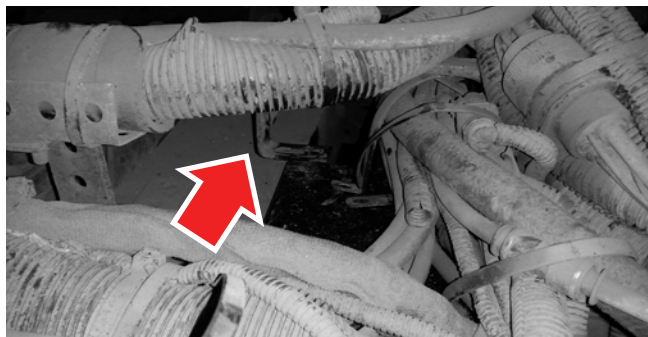

Figure 5, Battery Cable Clamp Disconnect
8. Disconnect the battery cable clamp and set aside for reconnect (see Figure 5).